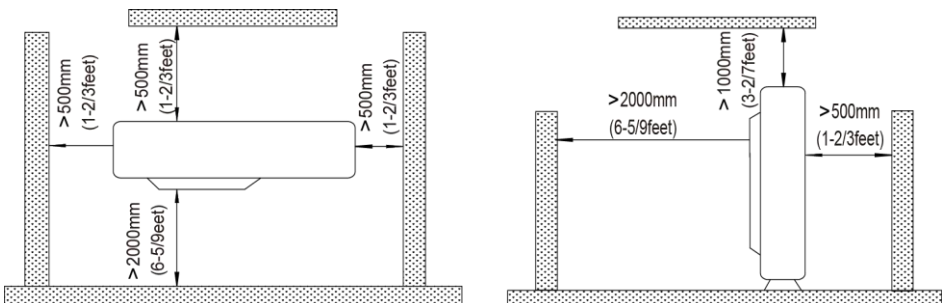

Fig. 3.2
- ①. Install the unit where it will not be tilted by more than 5°.
- ②. During installation, if the outdoor unit has to be exposed to strong wind, it must be fixed securely.
- (1). If possible, do not install the unit where it will be exposed to direct sunlight. (If necessary, install a blind that does not interfere with the air flow.)
- (2). Install the outdoor unit in a place where it will be free from getting dirty or getting wet by rain as much as possible.
- (3). Install the outdoor unit where it is convenient to connect the indoor unit.
- (4). Install the outdoor unit where the condensate water can be drained out freely during heating operation. Do not place animals and plants in the path of the warm air.
- (5). Take the air conditioner weight into account and select a place where noise and vibration are small.
- (6). Install the outdoor unit where is capable of withstanding the weight of the unit and generates as less noise and vibration as possible.
- (7). Provide the space shown in Fig. 3.2, so that the air flow is not blocked. Also for efficient operation, leave three of four directions of peripheral constructions open.